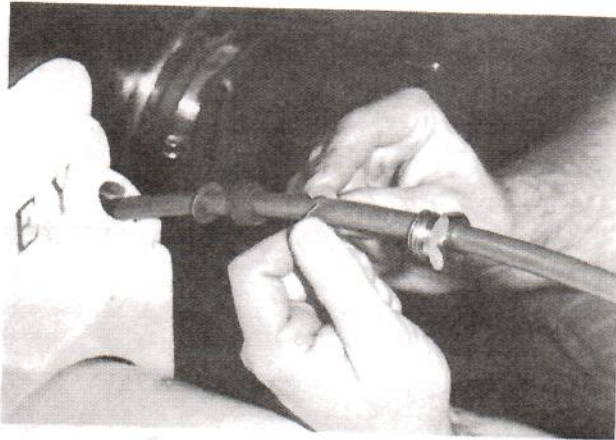

Figure 2
- 2 Run the reverse control cable through the counter-bored hole in the transom housing. Slip the packing ring and 7/8" hex packing nut over the cable. Place one split washer on either side of the packing ring (Figure 2) and slide the parts into the counterbore. Tighten the packing nut finger tight.